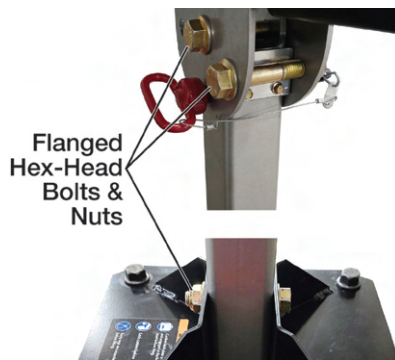

Figure 8-6: Flanged Hex-Head Bolts & Nuts Locations
6. Inspect the three flanged hex-head bolts and nuts that attach the square tube to the base assembly and the mast pivot bracket. Make sure they are in place and the nut is tight (see Figure 8-6).